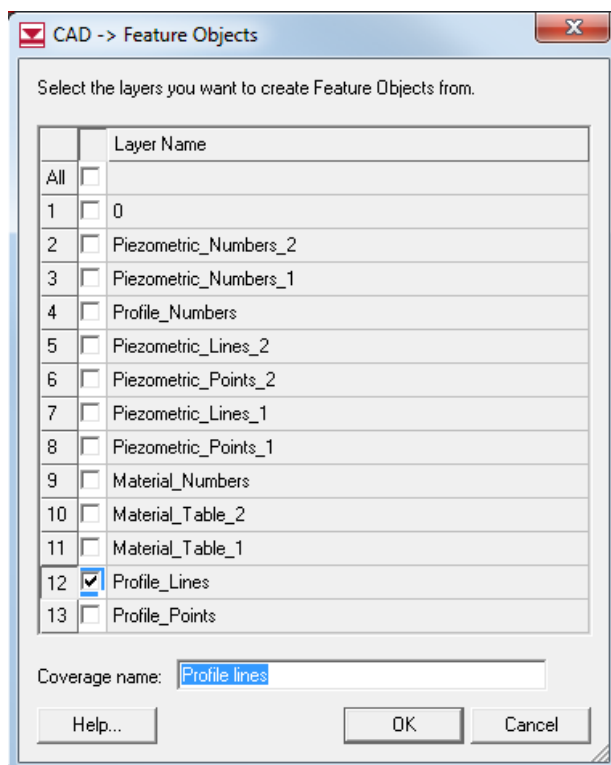

Figure 2. CAD -> Feature Objects dialog.
2. In the *CAD → Feature Objects* dialog, uncheck all the layers except for the *Profile_Lines* layer. Also change the *Coverage name* to **Profile lines**. The dialog should look as shown in Figure 2 below.